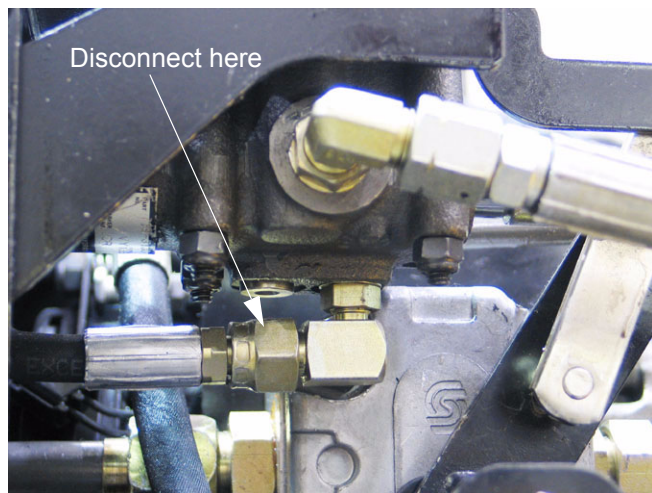

Figure 8.22
- 8.22. Disconnect the flexible hydraulic line that leads from the control valve to the lift cylinder using an 11/16" and a 3/4" wrench. See Figure 8.22.